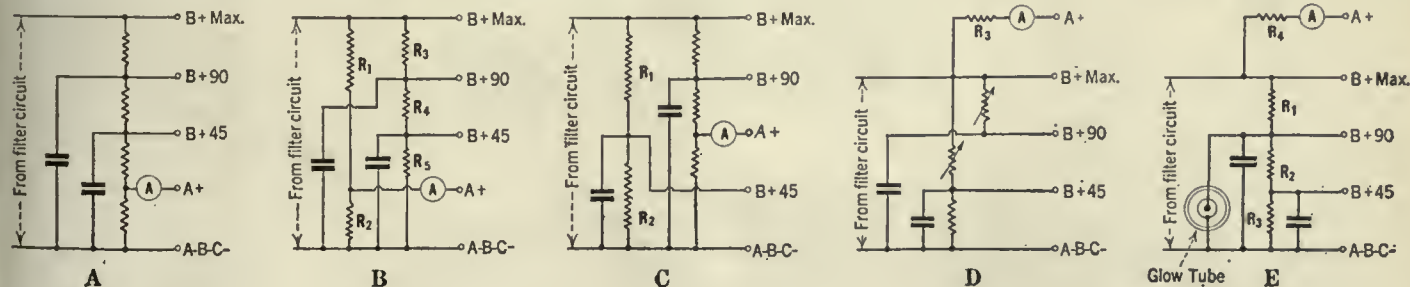
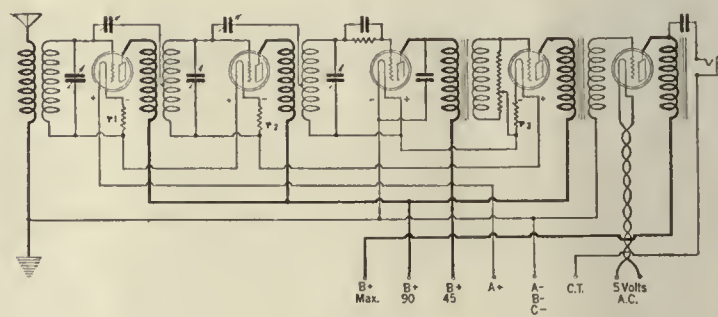

FIG. 1
FIG. 3
using a five-tube receiver consisting of a stage of r.f. amplification, regenerative detector, and a three-stage double-impedance amplifier. A regenerative receiver using this type of amplification is frequently difficult to get working properly with a power-supply unit because of a marked tendency to "motor-boat," and it was felt that, if this receiver could be made to function satisfactorily with an A, B, C power unit, any other receiver would surely work satisfactorily. It was found that the receiver "motor boated" badly using the output circuit shown in Fig. 1, A, although when a two-stage transformer-coupled amplifier was substituted for the double-impedance affair, results were excellent. To prevent "motor boating" with the impedance amplifier, the output potentiometer circuits shown at B, C, D, or E, Fig. 1, had to be used.
brought down to two a.c. filament terminals, and it is absolutely necessary that the output circuit shown in the plate circuit of the 171 be used and that one side of the loud speaker jack connect to the center tap, CT, as indicated. The negative A should be grounded. No trouble should be experienced with this receiver due to "motor boating" and, for this reason, any output arrangement indicated in Fig. 1 may be used. However, in the event that the "Lab" receiver
In Fig. 3 we have a diagram of the new "Universal" receiver, described in RADIO BROADCAST for December, 1926, wired for a.c. operation. The order of filaments is the same as in the case of the "Lab" receiver, and the two resistances,  $r$  and  $r_1$ , should each also have a value of 18 ohms. This receiver will operate satisfactorily using any of the output arrangements indicated in Fig. 1.
has been constructed using a different type of audio amplifier, such as an impedance- or resistance-coupled circuit, it will very likely be necessary to use a special output arrangement in the power unit to prevent "motor boating." Separating the detector plate voltage supply from the rest of the A and B circuits, as shown in B, Fig. 1, will generally eliminate the trouble, but if "motor boating" is very persistent it will be necessary to use the glow tube arrangement shown at "E" in Fig. 1.
a.c. neutrodyne receiver. The resistances  $r_1$ ,  $r_2$ , and  $r_3$  should each have a value of 18 ohms, which will give the two r. f. tubes and the first a. f. tube a grid bias of 4.5 volts. The receiver will function satisfactorily with any of the output arrangements indicated in Fig. 1.
Fig. 5 is the circuit diagram of the impedance-coupled Browning-Drake receiver which was described in the September, 1926, RADIO BROADCAST, now connected so as to be satisfactory for use in conjunction with A, B, C power units. The order of the filaments from the A plus terminal is r. f. tube first, second a. f. tube secondly, first a. f. tube third, and detector finally. The resistance  $r_1$  should have a value of 12 ohms;  $r_2$  should have a value of 4 ohms, and  $r_3$ , a value of 12 ohms. The negative A should be grounded and should also connect through a 0.5-mfd. fixed bypass condenser to the lower side of the coil in the antenna circuit. It is unlikely that this receiver will give satisfactory results with the output circuit arrangements of the power unit shown at "A", "B", or "C," Fig. 1. For this set it will be preferable to use the circuit arrangement indicated at "D" or "E."